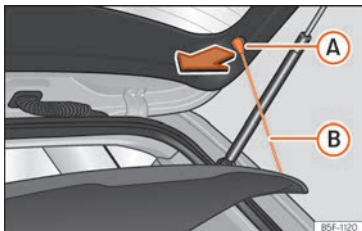

Fig. 171 In the boot: removing and installing the shelf.
- Detach the cord loops »» **Fig. 171 (B)** from their hooks **(A)**.
- Hook the loops »» **Fig. 171 (B)** to the rear lid »» ⚠.